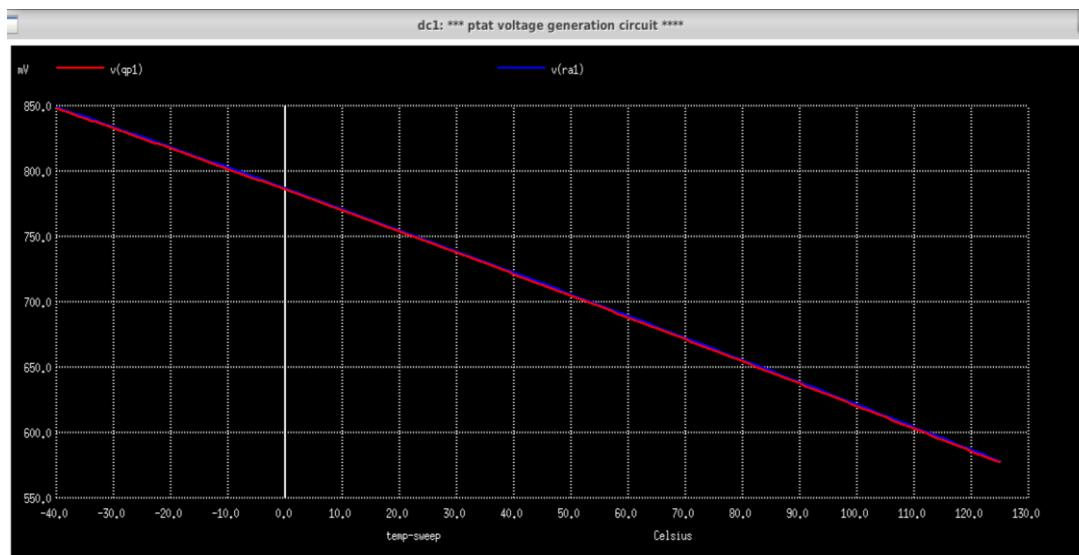

Fig9. PTAT voltage generation circuit simulation graph
- In fig9 we can observe that voltage at qp1 and ra1 are same.